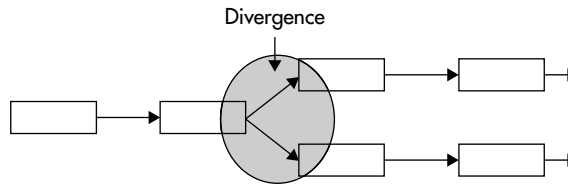

Figure 6-13 Sample diverging paths
8. Calculate the backward pass. Note that when multiple activities converge into a single activity, you should select the lowest late start (LS) to carry over to the late finish (LF) single-predecessor activity (see details and Figure 6-13, later in this chapter).
- **Activity divergence** Occurs when deliverables of one activity are required for the start of two or more activities. On a forward pass, when diverging a single activity into multiple activities, you should use the early finish of the predecessor activity as the early start date of each of the successor activities. On a backward pass, when diverging a single activity into multiple activities, use the late start of the predecessor activity as the late finish date of each of the successor activities (see Figure 6-13).